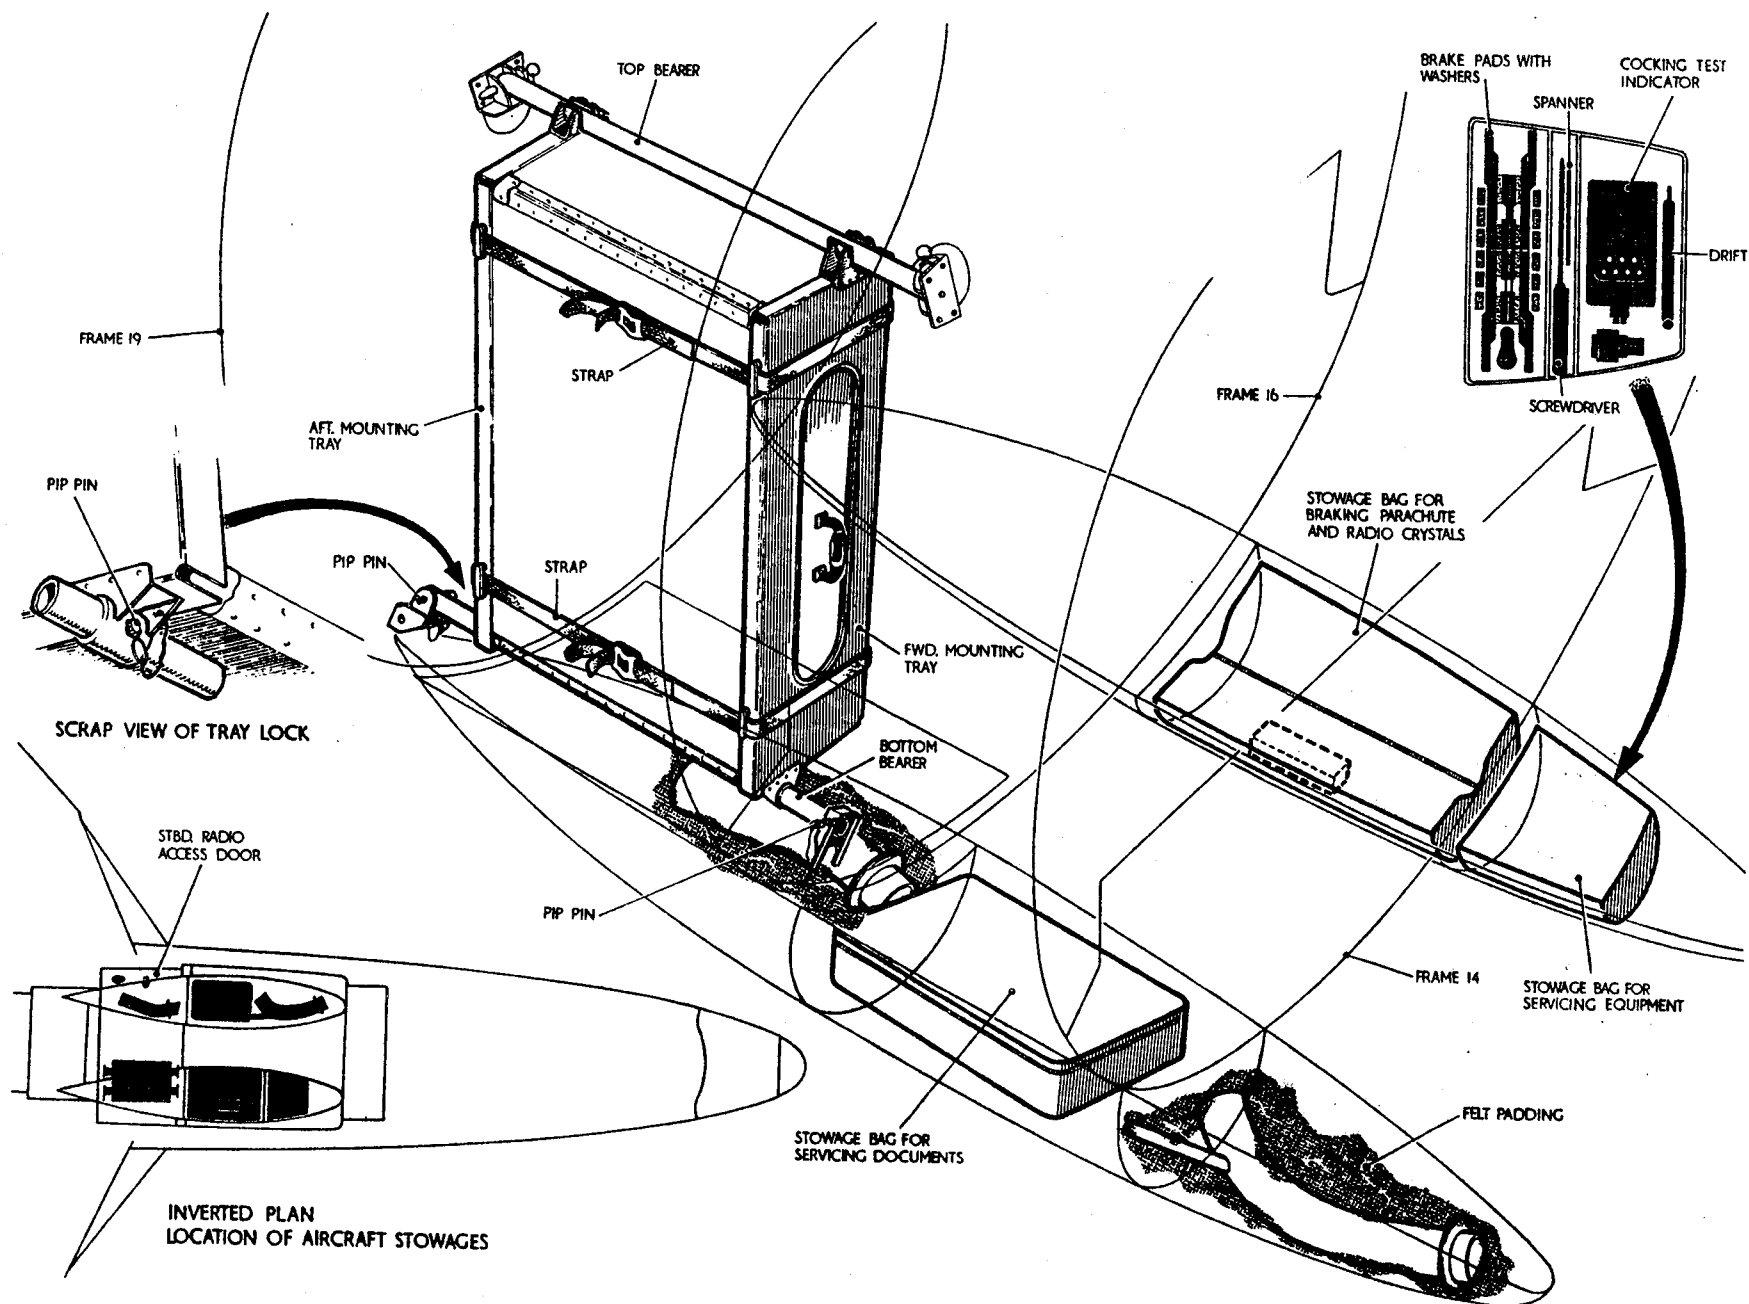

Fig.1 Stowing luggage, spare braking parachute and servicing documents etc.
Stowing luggage, spare braking parachute, servicing equipment and documents (fig. 1 and 2)
- (5) Fit the top bearer, Part No. A.258429 between the mounting brackets on frames 16 and 19 and secure with the pip-pins, Part No. A.413 attached to the mounting brackets (fig. 1).
- (6) Fit the forward and aft mounting trays, Part No. C.258425 and C.258426 to the suitcase and secure firmly with the two strap assemblies, Part No. B.258427, ensuring that the straps pass through the guides on the mounting trays.
- (7) Fit the bottom bearer, Part No. B.258428, through the mounting rings at the bottom of the mounting trays and secure the aft mounting tray to the bottom bearer with pip-pin, Part No. A.518.
- (8) Offer up the mounting tray, suitcase and bearer assembly into the radio bay and locate the top locating channels about the top bearer and fit the aft end of the bottom bearer into the attachment bracket for the outboard case chute at frame 19 and secure with the pip-pin. At the same time feed the forward end of the bottom bearer into the mounting bracket on the aft face of the gun package, and secure with the pip-pin.